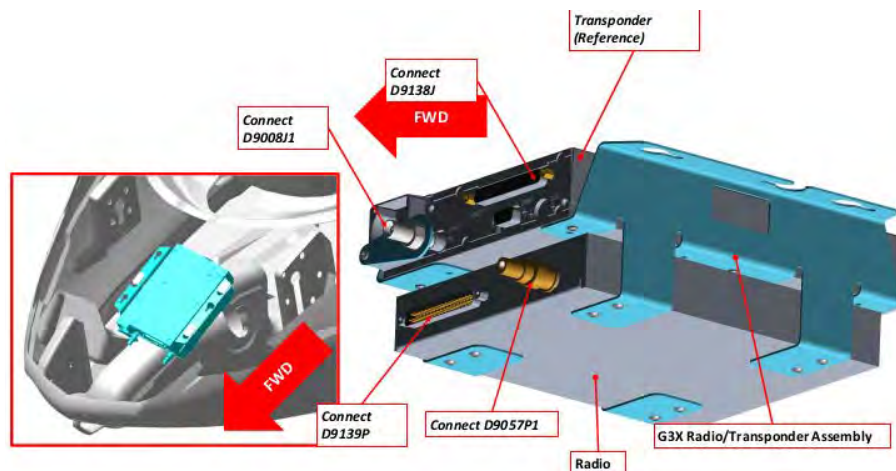

FIGURE 14-71
- d. Connect Transponder connector D9138J from fuselage wire harness to the Transponder. (See Figure 14-71.)
- e. Connect the Transponder coax cable D9008J1 to the Transponder antenna output. (See Figure 14-71.)
- f. Connect D9139P from the fuselage wire harness to the VHF Comm Radio. (See Figure 14-71.)
- g. Connect the comm coax cable D9057P1 to the Coax Connection on VHF Comm Radio antenna output. (See Figure 14-71.)